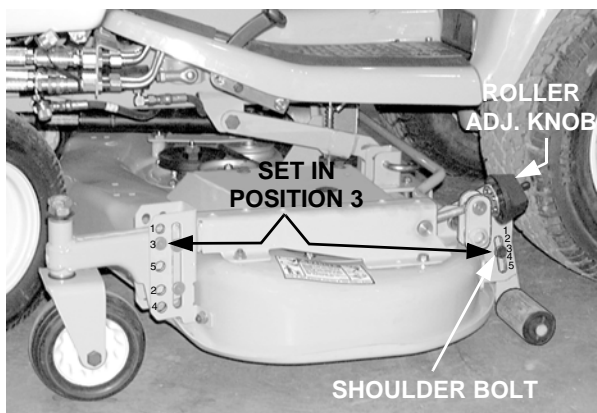

Figure 25
3. From the left/rear of the deck, pull the adjustment knob rearward to disengage the detent pin of the knob from the hole in the detent hub. While holding the knob rearward turn the roller adjustment knob as necessary to align the shoulder bolt in the roller pivot link with the corresponding height index setting on the roller guide bracket (See Figure 25).